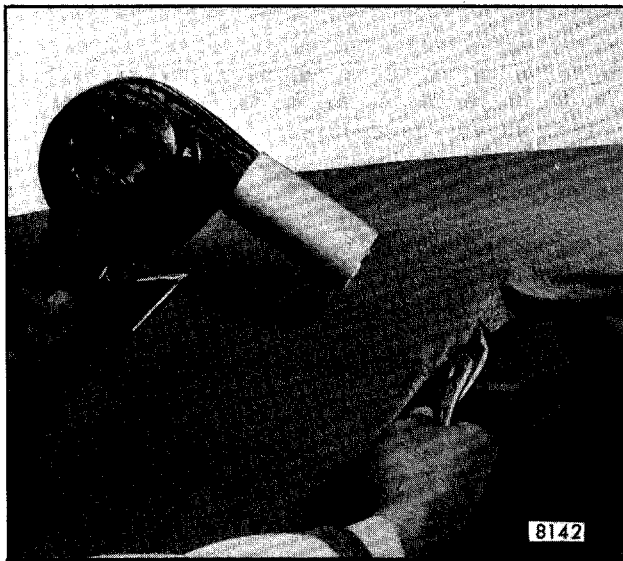

Fig. 8-41-Loosening Edge of Fabric Roof Cover
5. Apply heat to edges of cover to aid loosening. Heat can be applied with a hot air gun held approximately 1" from the cover and moved in a circular motion (Fig. 8-41). Heat lamps can also be used if held a minimum of 18" from the cover.
6. Using a pair of pliers carefully loosen edges of roof cover as shown in Figure 8-41.